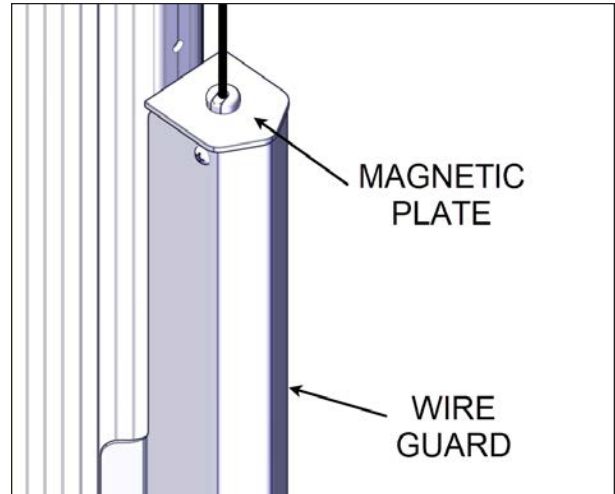
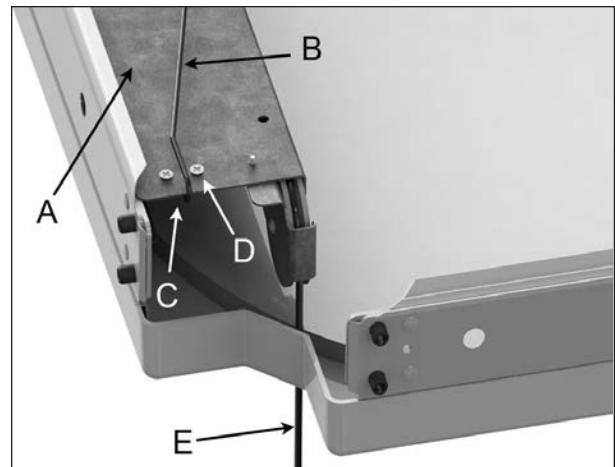

FIGURE 62: MAGNETIC PLATE
FIGURE 63: EXITING WIRE
- If the cover is completely lowered on the spa, and the exiting wire (Figure 63) seems to have sufficient tension and the magnetic plate is properly positioned (Figure 62), move to next section, lifting mechanism installation (part 2). If not, follow the next steps.
- Locate the screws for the tension holder on the CTS-70 (Continuous Tension System) see Figure 63. Lightly unscrew them and pull back the tension wire until a slight resistance is felt. Once the resistance is felt, continue pulling another inch. Check the protruding wire going to the posts, and if the wire is tight enough, retighten the set screws.